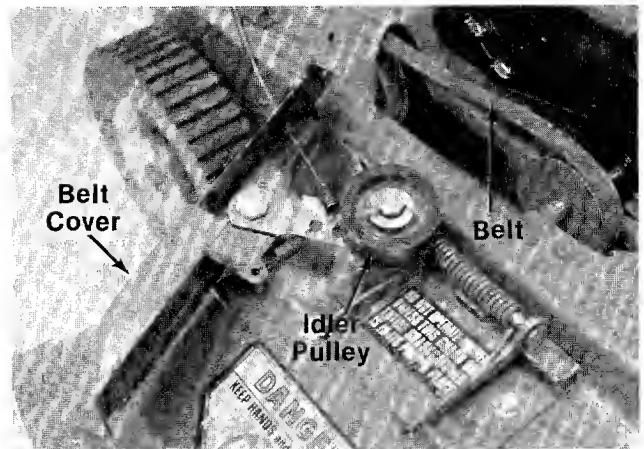

FIGURE 20.
6. Unhook the belt from the idler pulley. See figure 20.